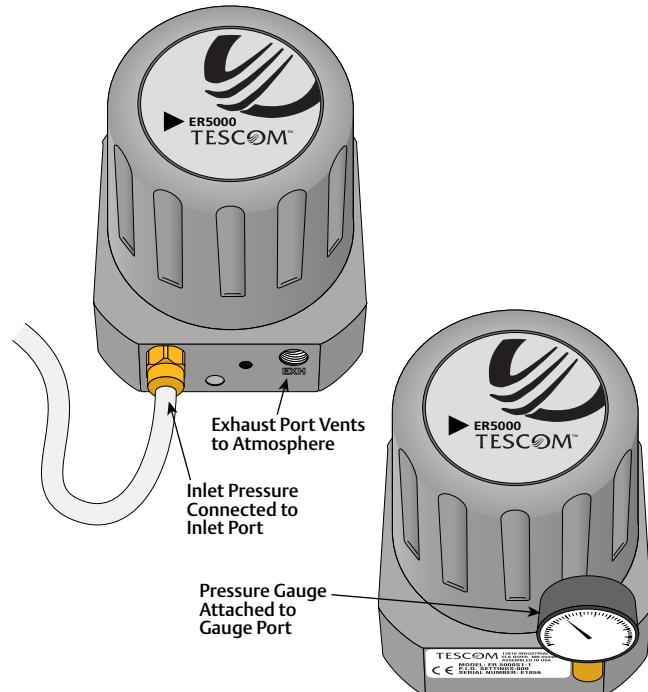

Figure 16: Pressure Connections
Connect the inlet pressure source to the Inlet Port, marked IN on the base of the ER5000. Refer to Figure 16.
- c. Leave the Gauge Port plugged to prevent leakage, or attach a pressure gauge, as shown in Figure 16 on the previous page.